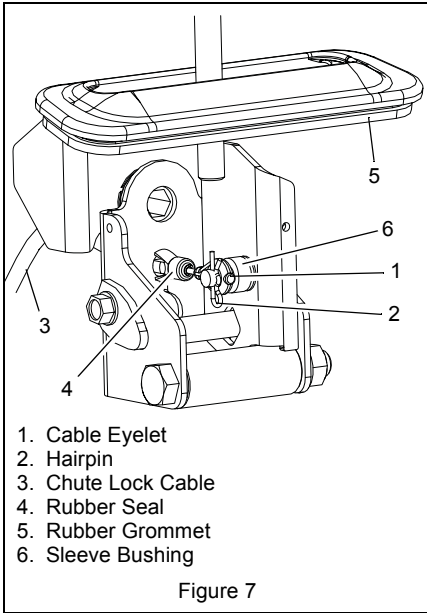

Figure 7
10. Remove hairpin from pin on chute control, install cable eyelet onto pin and re-install hairpin. See Figure 7.